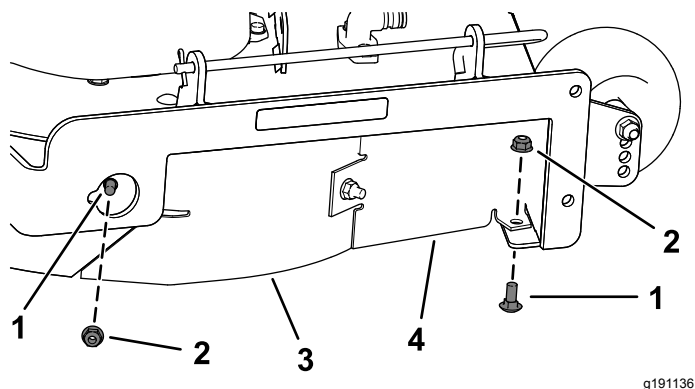

Figure 32
- Remove the 2 carriage bolts (5/16 x 3/4 inch) and 2 locknuts (5/16 inch) securing the assembled right baffle and baffle guard to the mower deck (Figure 32).